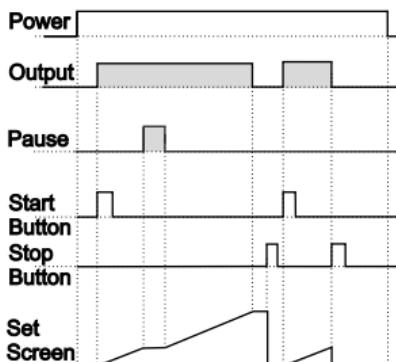

Figure 2.3
1.4.1 If Upcount `dEct` = 0 and `outF` is `0-n` the control diagram is shown in Figure 2.3